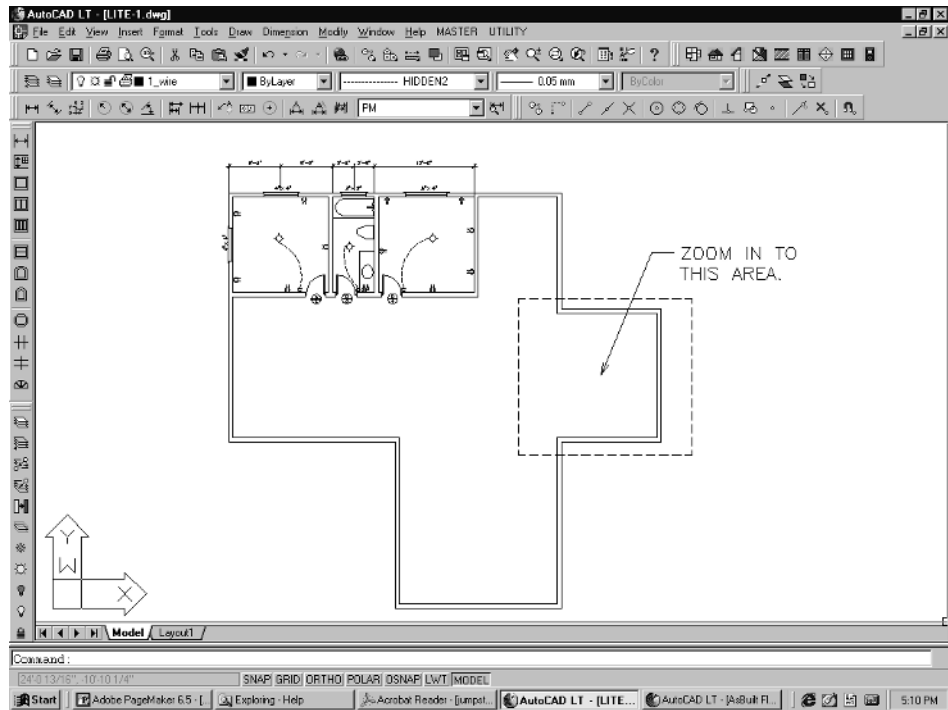

Figure 6-46
1. **Zoom|Out** so you can see the whole house. Next, **Zoom|In** to the area shown in Figure 6-46. We will be using this area to build our kitchen and to show you some of the techniques and tricks that will help save you time.